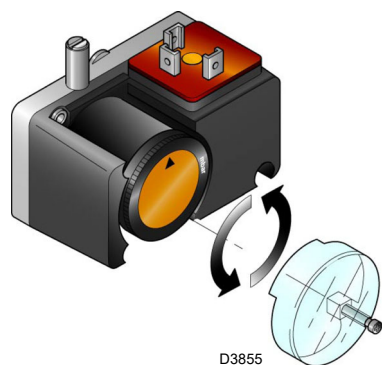

Fig. 29
- Adjust the minimum gas pressure switch (Fig. 29) to the start of the scale.
Adjust the minimum gas pressure switch (Fig. 29) after having adjusted the burner, the gas valves and the gas train stabiliser. With the burner operating at maximum output: